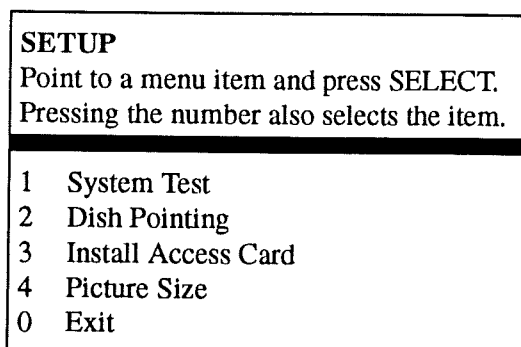

FIGURE 4
STEP 10: Select #5 Setup. Figure 4